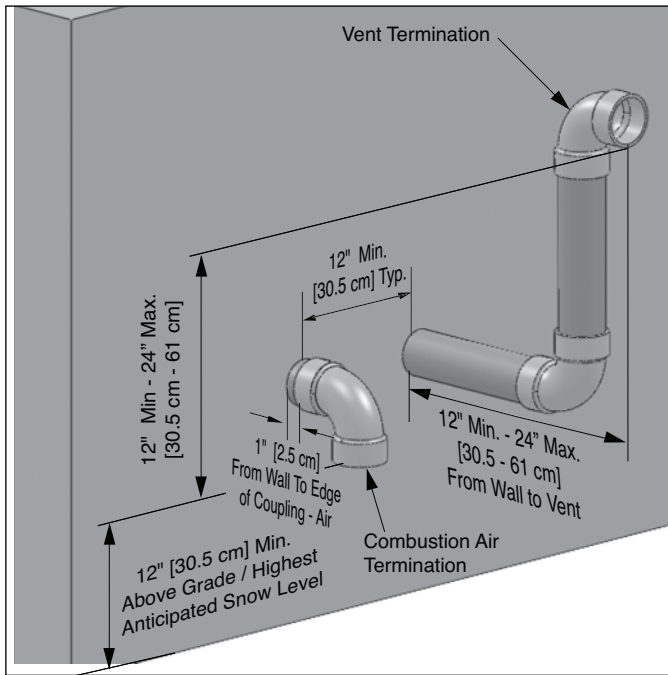
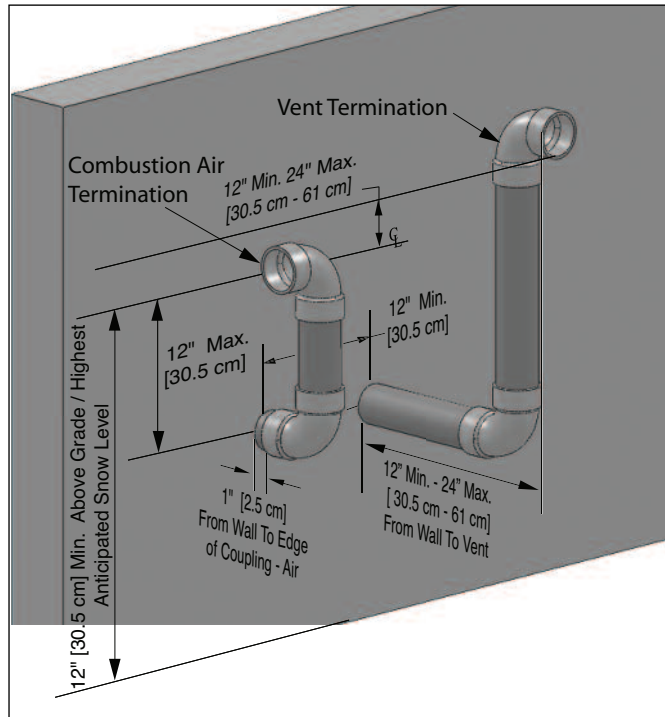
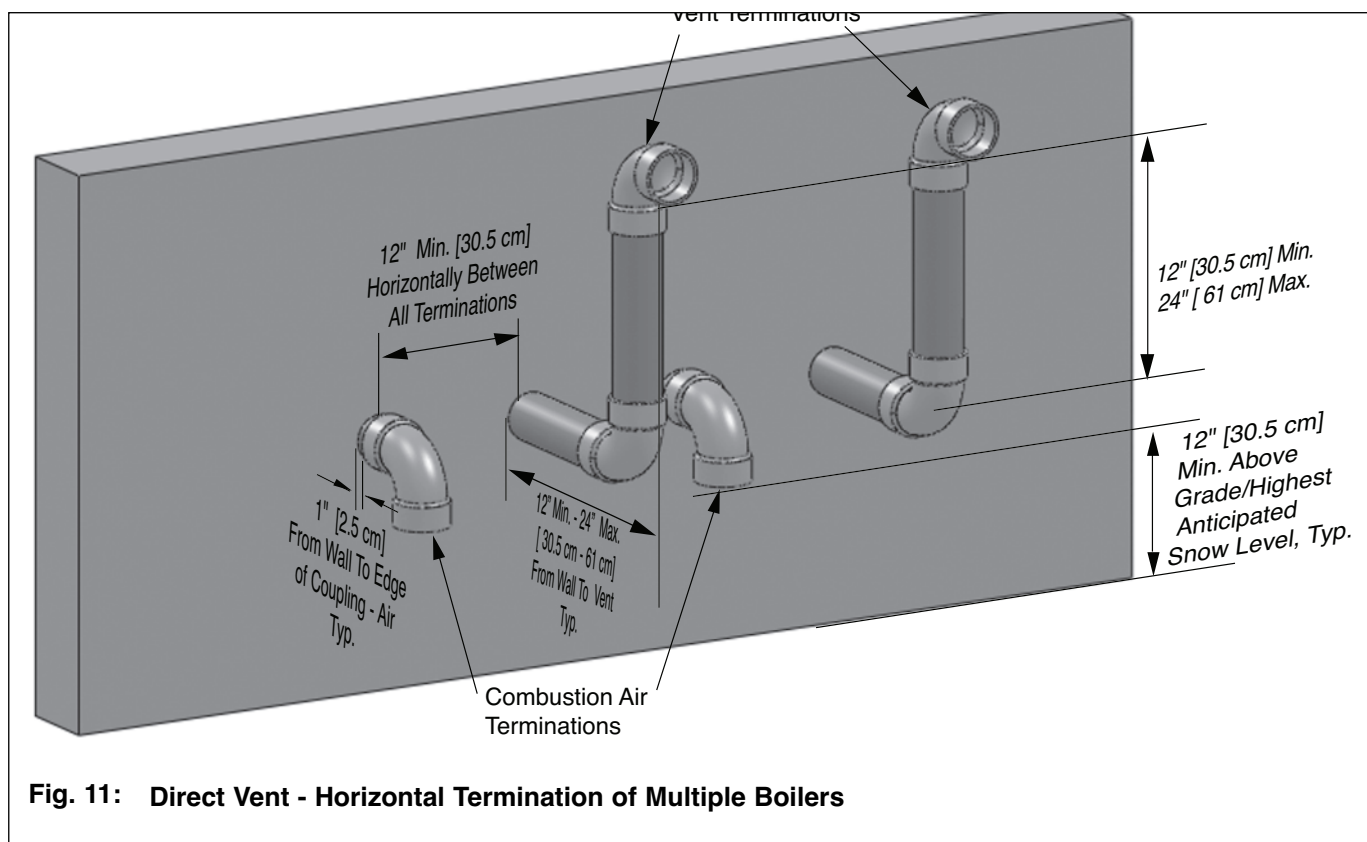
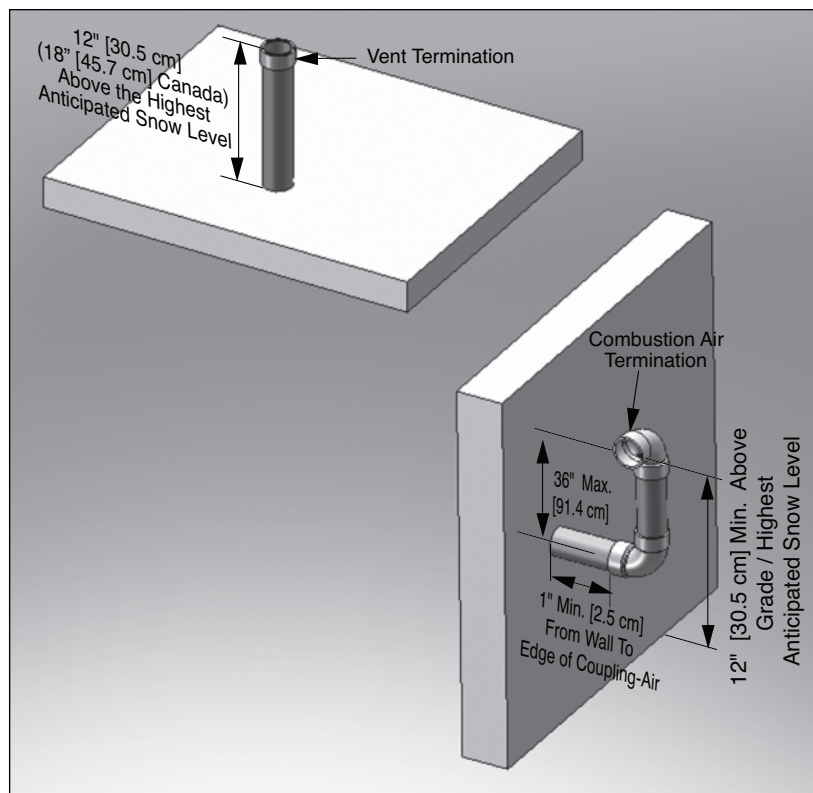

Fig. 6: Direct Vent - Sidewall Termination of Vent and Combustion Air Piping
Fig. 8: Direct Vent - Sidewall Snorkel Termination of Vent and Combustion Air Piping
Fig. 11: Direct Vent - Horizontal Termination of Multiple Boilers
Fig. 12: Direct Vent - Vertical Vent and Side Wall Combustion Air
To reduce the potential of the combustion air inlet freezing up it is recommended to separate the vent and air terminations in both a horizontal and vertical plain as shown in figures 6 through 8 on page 19.
2. The combustion air pipe must terminate using a 90° elbow directed away from the vent termination. The combustion air termination must be installed 12" [30.5 cm] minimum above grade / highest anticipated snow level and as shown in Figs. 6 through 8 on page 19.
The combustion air termination can be placed on either side of the vent termination. The vent and combustion air terminations must be a minimum 12" [30.5 cm] apart. The vent and combustion air terminations are not required to be in the same pressure zone. The combustion air termination must be directed away from the vent see Fig. 8 on page 19. The combustion air termination must be directed down for Figs. 6 and 7 on page 19.
- Using a 90° elbow as shown in Figs. 6 or 8 on page 19.
Do not extend the vent pipe outside the sidewall beyond the dimensions shown in Figs. 6 through 8. Extended exposure of the vent pipe could cause condensate to freeze and block the vent pipe.
4. The combustion air and vent pipe center lines must be a minimum of 12" [30.5 cm] apart as shown in Figs. 6 through 8 on page 19.
7. The edge of the combustion air termination coupling must extend 1" [2.5 cm] beyond the exterior wall as shown in Figs. 6 through 8 on page 19.
3. Locate the vent and combustion air pipe penetrations to provide clearances as described in Figs. 6 through 8 on page 19.
2. The combustion air pipe must terminate using a 90° elbow as shown in Figs. 6 through 8 on page 19.
- Using a 90° elbow as shown in Fig. 6 on page 19.
- Using coupling as shown in Fig. 8 on page 19.
Do not extend the vent pipe outside the sidewall beyond the dimensions shown in Figs. 6 through 8 on page 19. Extended exposure of the vent pipe could cause condensate to freeze and block the vent pipe.
Fig. 11 on page 21 shows one option for vent and combustion air terminations of multiple PRESTIGE boilers. Either termination option shown in Fig. 6 or 7 on page 19 can be used for multiple PRESTIGE boilers. The 12” [30.5 cm] minimum distance between centerlines of the combustion air and vent piping must be maintained for any chosen option.
Reference Fig. 6 or 7 on page 19 for the configuration dimensions for the vent and combustion air inlet terminations for each unit installed in a multiple installation.
2. The combustion air piping must terminate with a 90° elbow. Fig. 12 shows a snorkel termination option. The combustion air pipe can also terminate using a 90° elbow directed down as shown in Fig. 6 on page 19. The termination must be installed 12" [30.5 cm] minimum above grade / highest anticipated snow level and as shown in Fig. 6 on page 19.
6. The edge of the combustion air termination coupling must extend to 1" [2.5 cm] beyond the exterior wall, as shown in Fig. 12 page 22.
2. The combustion air termination must be installed 12" [30.5 cm] minimum above grade / highest anticipated snow level and as shown in Fig. 6 or 8 on page 19.
2. The combustion air piping must terminate through the sidewall using a 90° elbow as shown in Fig. 6 or 8 on page 19.
Do not extend the vent pipe above the roof beyond the dimension shown in Fig. 12 on page 22. Extended exposure of the vent pipe could cause condensate to freeze and block the vent pipe.